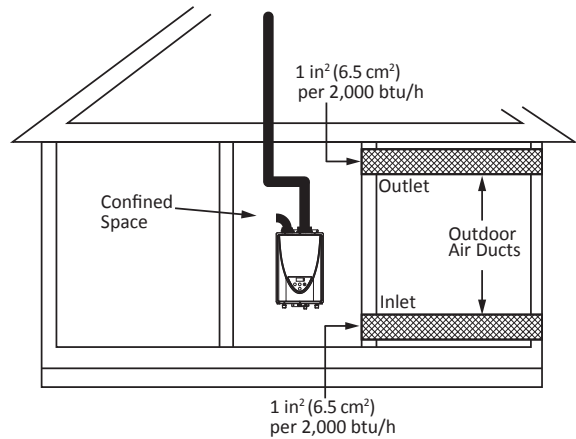

Figure 4 - Horizontal duct openings
3. Horizontal ducts (See Figure 4)
Horizontal ducts	1 in ² (6.5 cm ²) per 2,000 BTU/hr (see Figure 4)